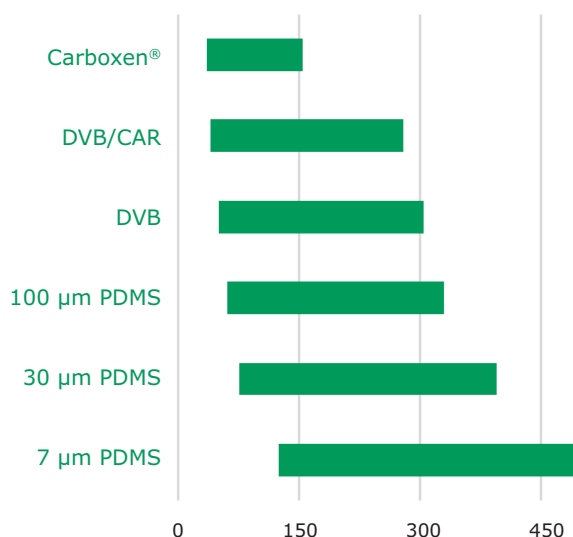

Figure 1. Analyte Molecular Weight Range (g/mol) for SPME Fibers
When selecting the appropriate SPME fiber, consider the physical and chemical properties of the compounds being analyzed. **Figure 1** illustrates fiber coating selection based on the molecular weight (MW) as an indicator for the volatility of the analytes. **Table 2** provides more specific guidance for fiber selection based on analyte type.